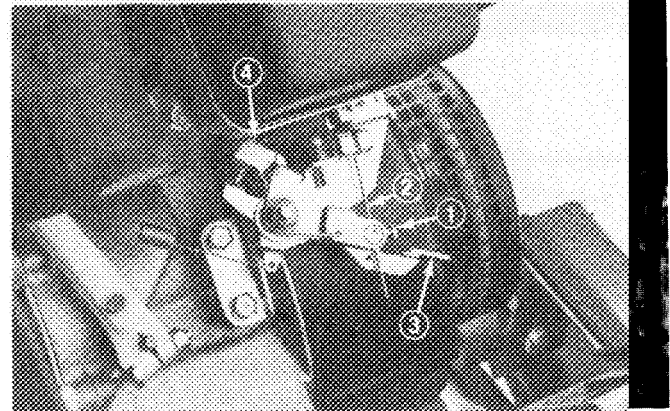

Figure 43
2. Loosen screw securing throttle cable to carburetor arm (Fig 43).